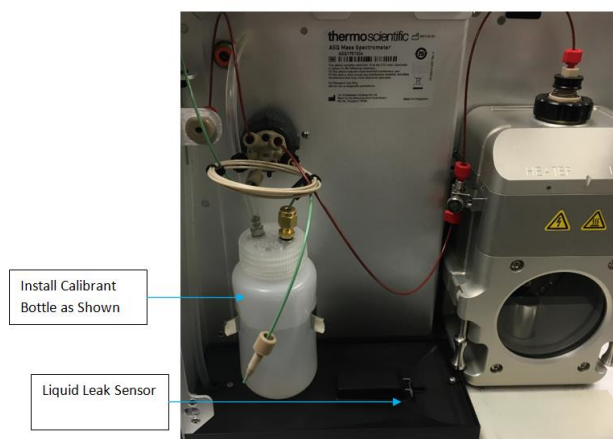

Figure 53: Location to install internal calibrant
- 2) Unscrew one of the labeled calibrant bottles and attach to existing cap located on the instrument as shown in Figure 53.